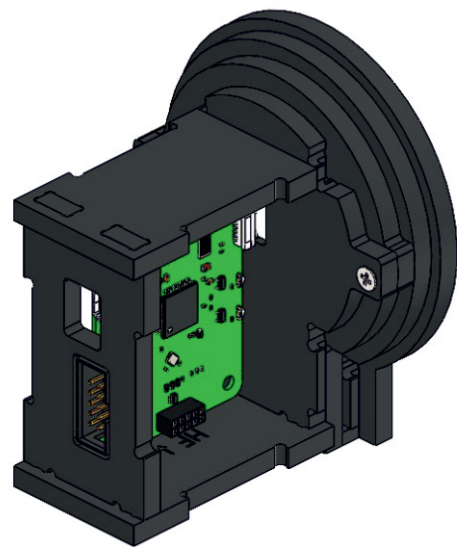

Fig. 68 Joining the structure with rings
4) Join the structure with four rings. To do that, align protrusions of the smallest ring with holes in the base plate and latch them. There are no special mating components for joining the smallest ring with the top plate (Fig. 68):